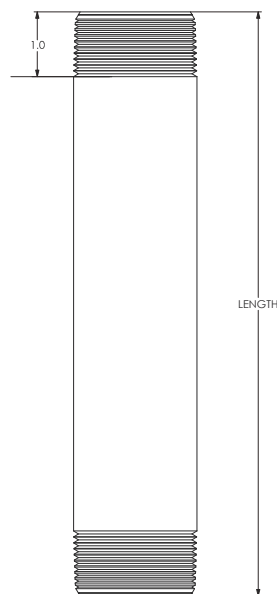

**Figure 4**
- Install and tighten set screws (standard (F) or security (G), as desired) using key (J) (See Figure 4).